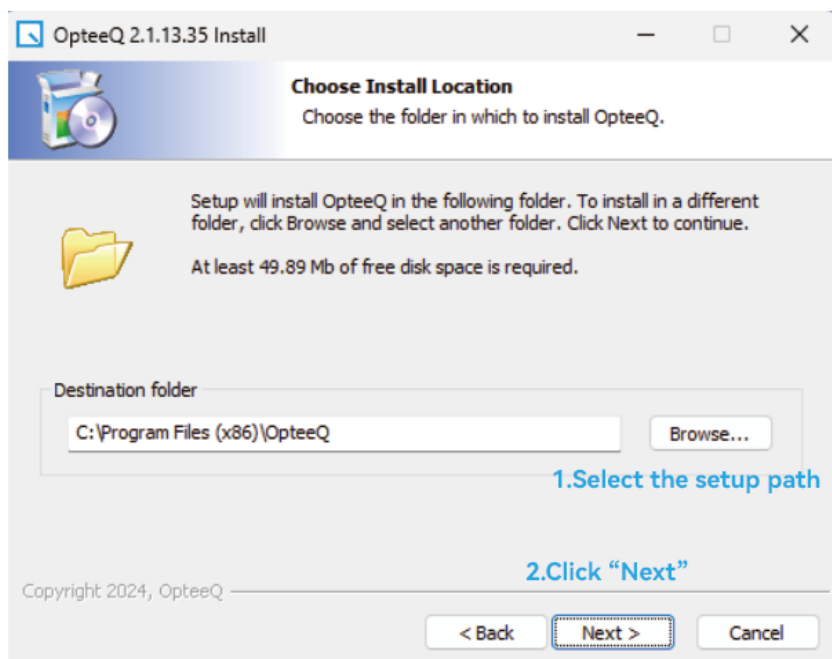

Figure 1.4 Step 4
Step 4: It is available to customize the setup path in the pop-up interface. Click "Next", as shown in Figure 1.4.